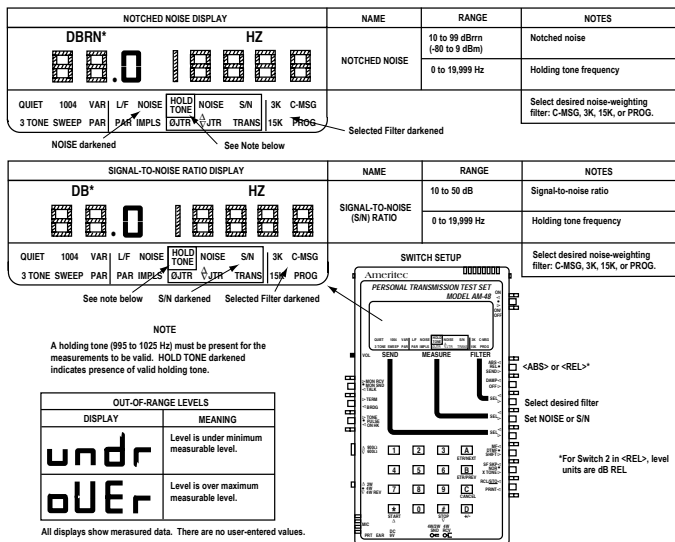

Figure 7-7. Notched NOISE and S/N Ratio MEASURE Displays
- See Figure 7-7. Set switches per the SWITCH SETUP illustration, and set the MEASURE cursor per the top menu illustration (NOTCHED NOISE DISPLAY).
- A noise-weighting filter is used for this measurement. Set the FILTER cursor for the desired filter as indicated in Figure 7-7.
2. See Figure 7-7. Set switches per the SWITCH SETUP illustration, and set the MEASURE cursor per the bottom menu illustration (SIGNAL-TO-NOISE RATIO DISPLAY).
4. A noise-weighting filter is used for this measurement. Set the FILTER cursor for the desired filter as indicated in Figure 7-7.